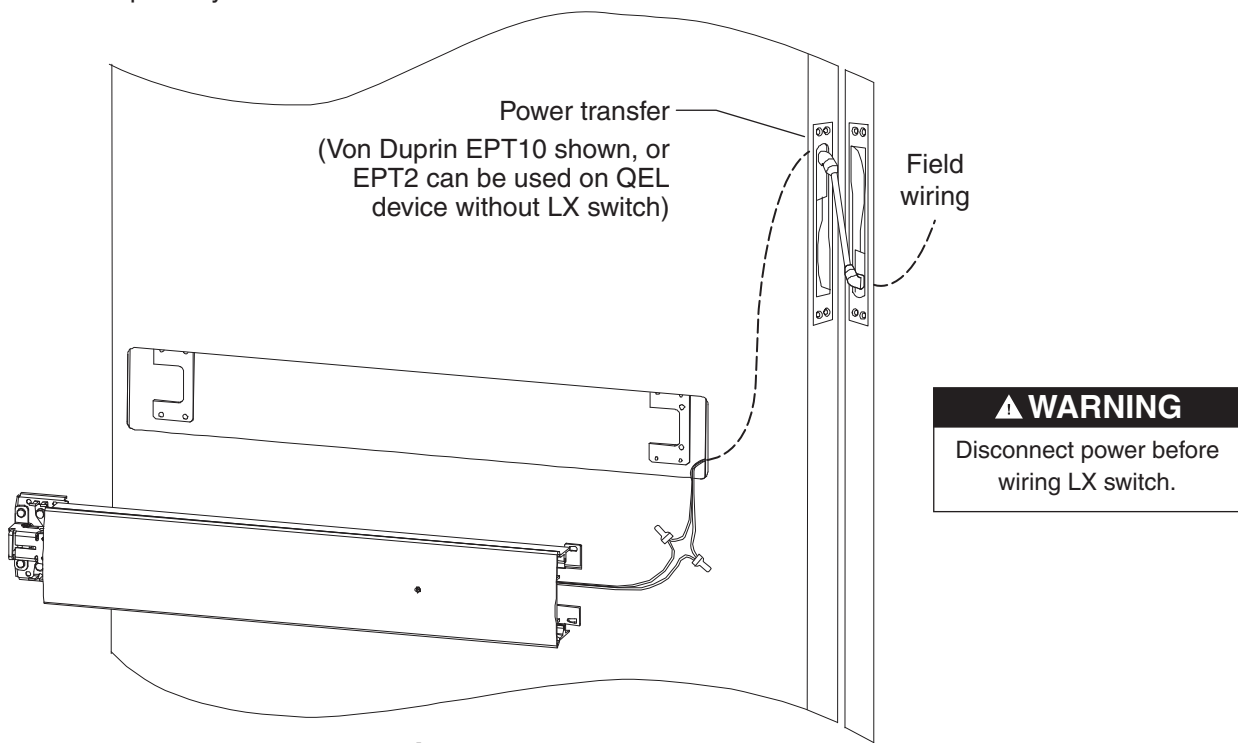

Figure 4-1
- Connect field wiring to frame side of power transfer (Figure 4-1).